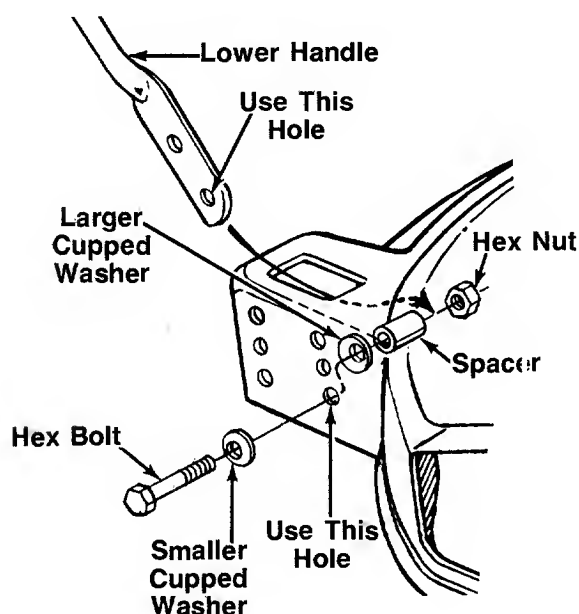

FIGURE 1.
3. Using the inside set of holes in the rear of the deck, insert hex bolt through the bottom hole as shown in figure 1.